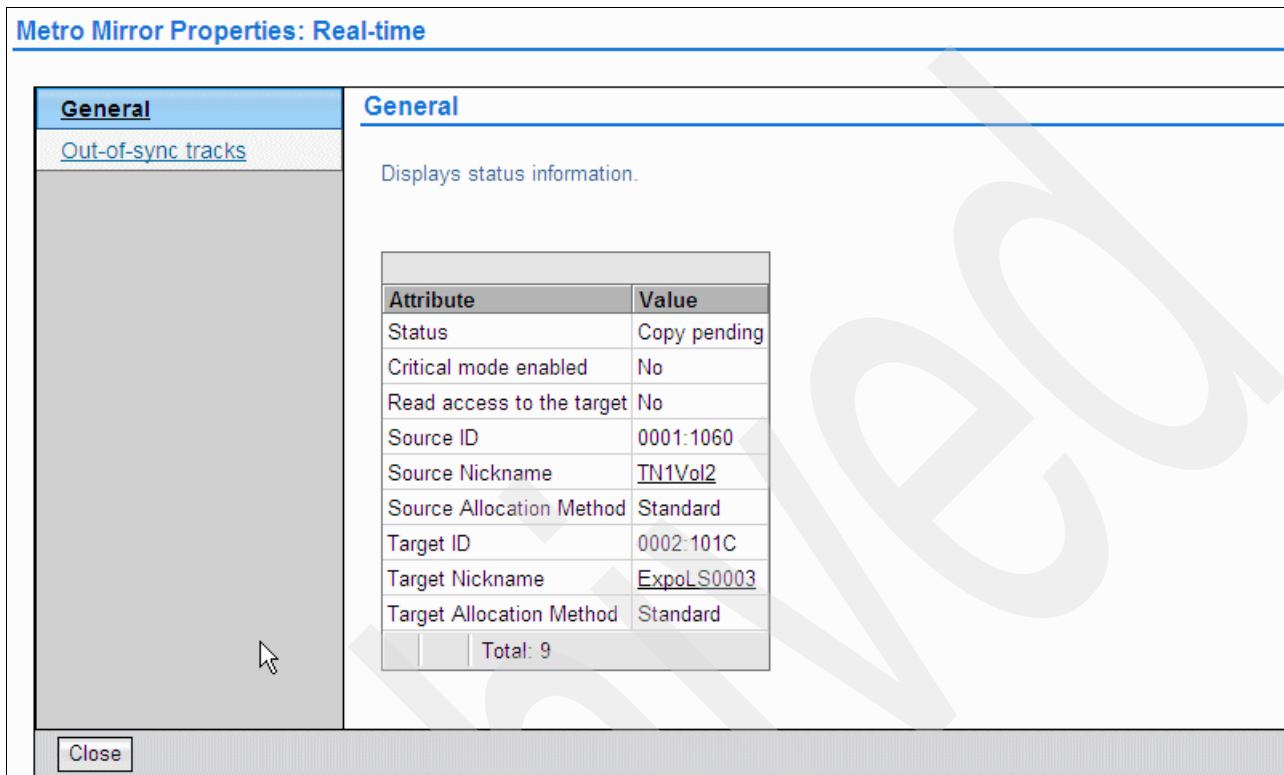

Figure 12-12 Metro Mirror relationship general properties
- The Metro Mirror Properties panel, shown in Figure 12-12, displays similar status information (Copy pending) such as that shown in the previous panel (Figure 12-11). Click **Out-of-sync tracks** from the Metro Mirror Properties navigation panel to see another properties of the Metro Mirror relationship.